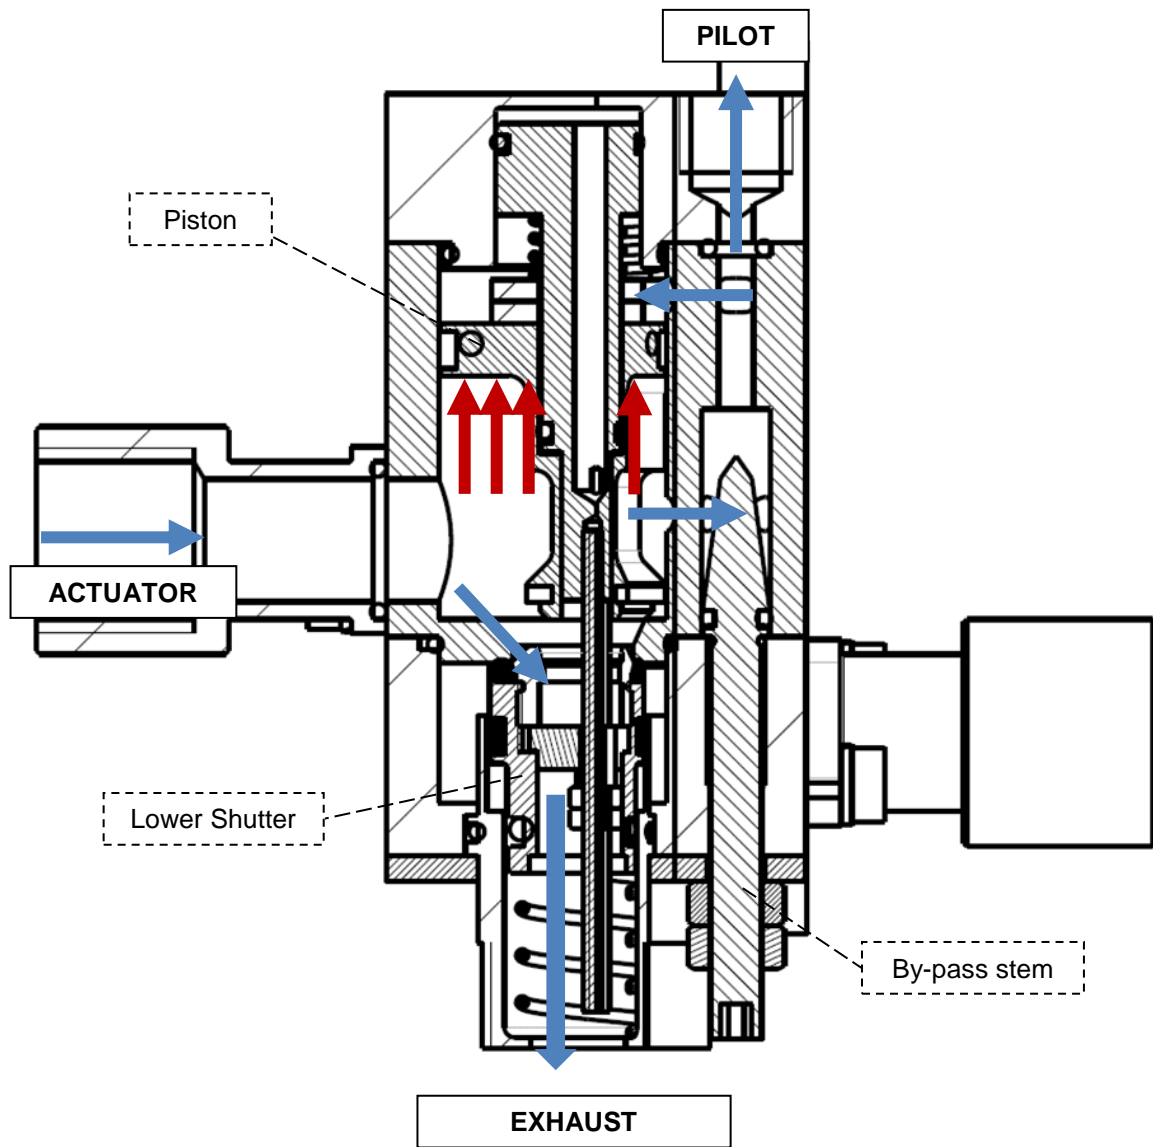

Figure 11 - Discharge setup: on-off model
- c) if the flow rate is much greater than a threshold value depending on the by-pass stem adjustment, the by-pass stem throttling generates a pressure drop between the two side of the piston and the working fluid pushes up the piston, allowing the connection between the actuator chamber and the exhaust. In this case the upper shutter generates the greatest flow section available because the piston reaches its upper stroke limit. This case is called "on-off mode" (figure 11).